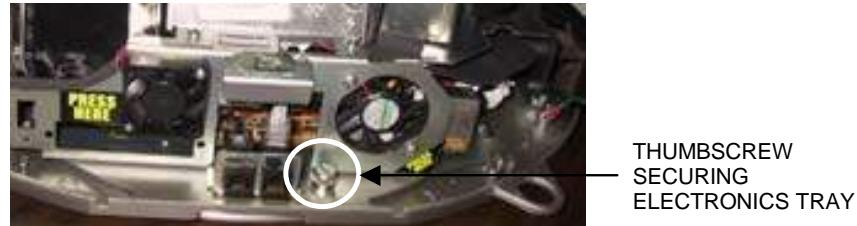

FIGURE 4 - REAR VIEW OF ELECTRONICS TRAY
6. Remove the electronics tray by unscrewing the thumbscrew located in the middle of the rear of the tray and sliding the tray out. See Figure 4.